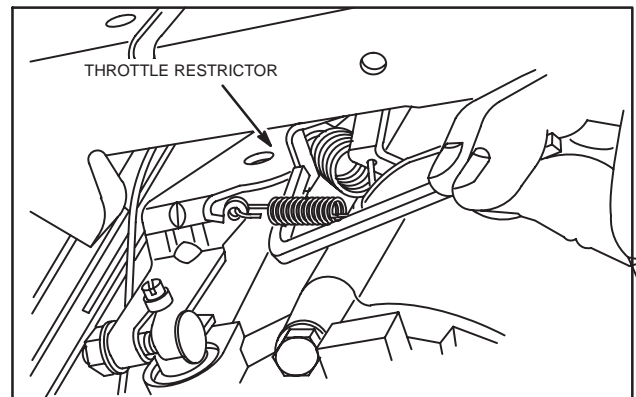

Fig. 24 – Adjusting Throttle Restrictor
4. With engine running at governed idle RPM, bend throttle restrictor tang so that tang just contacts governor lever, Fig. 24.